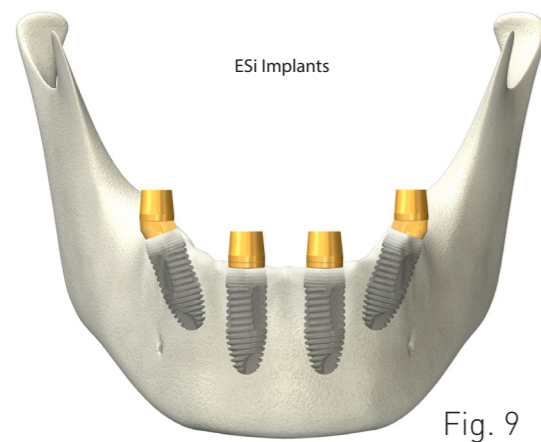

Fig. 9
- Place healing abutment into multi-unit (Fig. 9)